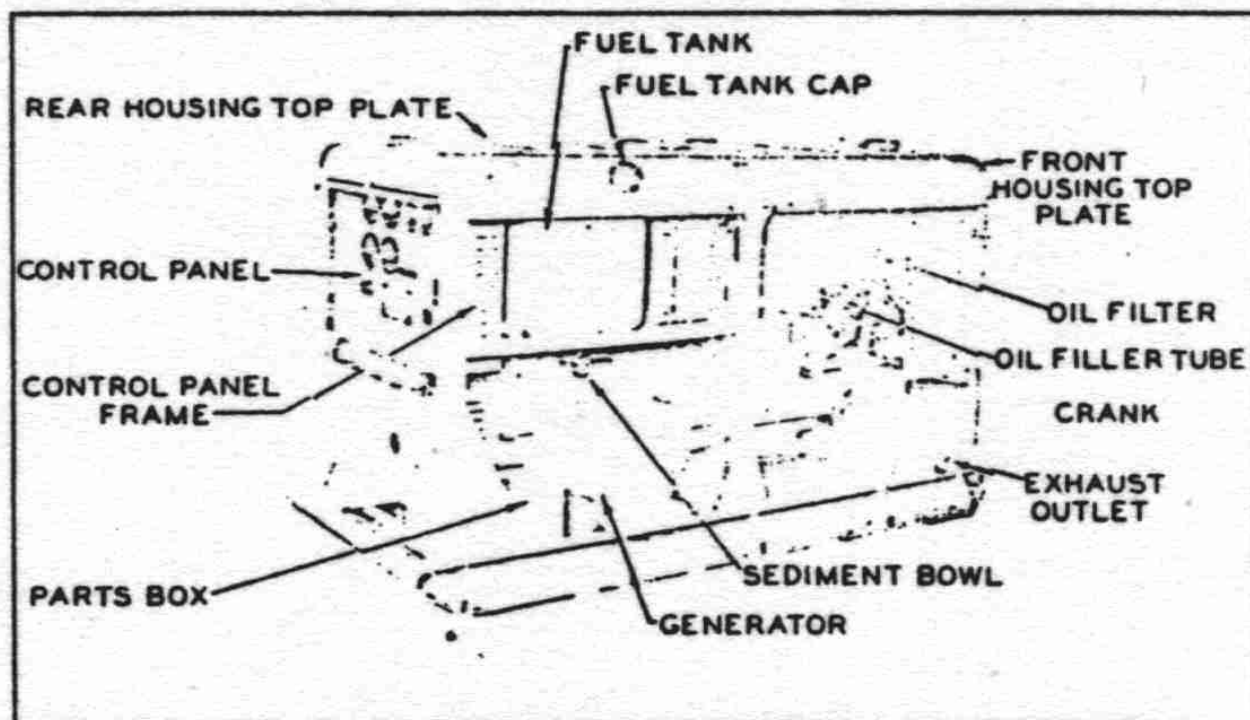

FIG. 2 POWER UNIT JWC4-10S-3 (LEFT SIDE)
a. Purpose.—The generator supplies the alternating-current power output of the power unit. This generator assembly really consists of two individual generators, the alternator and the exciter, (Fig. 2).